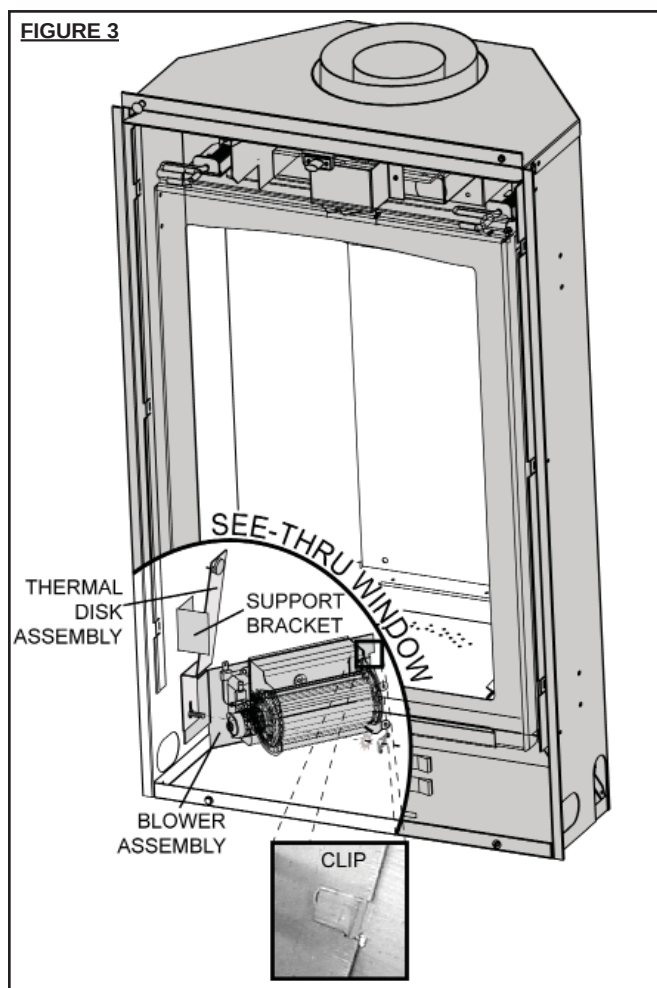

FIGURE 3
4. Place the thermal disk assembly onto the stud located at the lower left of the firebox and behind the support bracket. (FIGURE 3)
6. Insert the blower assembly into the left side under the firebox, slide the right side of the bracket into the clip and fit the left side of the bracket onto the same stud used for the thermal disk assembly. Secure with the lock washer and wing nut supplied. Ensure that the blower does not touch the base of the firebox, any wiring or controls. Ensure that the thermodisc is touching the wall of the firebox. (FIGURE 3)